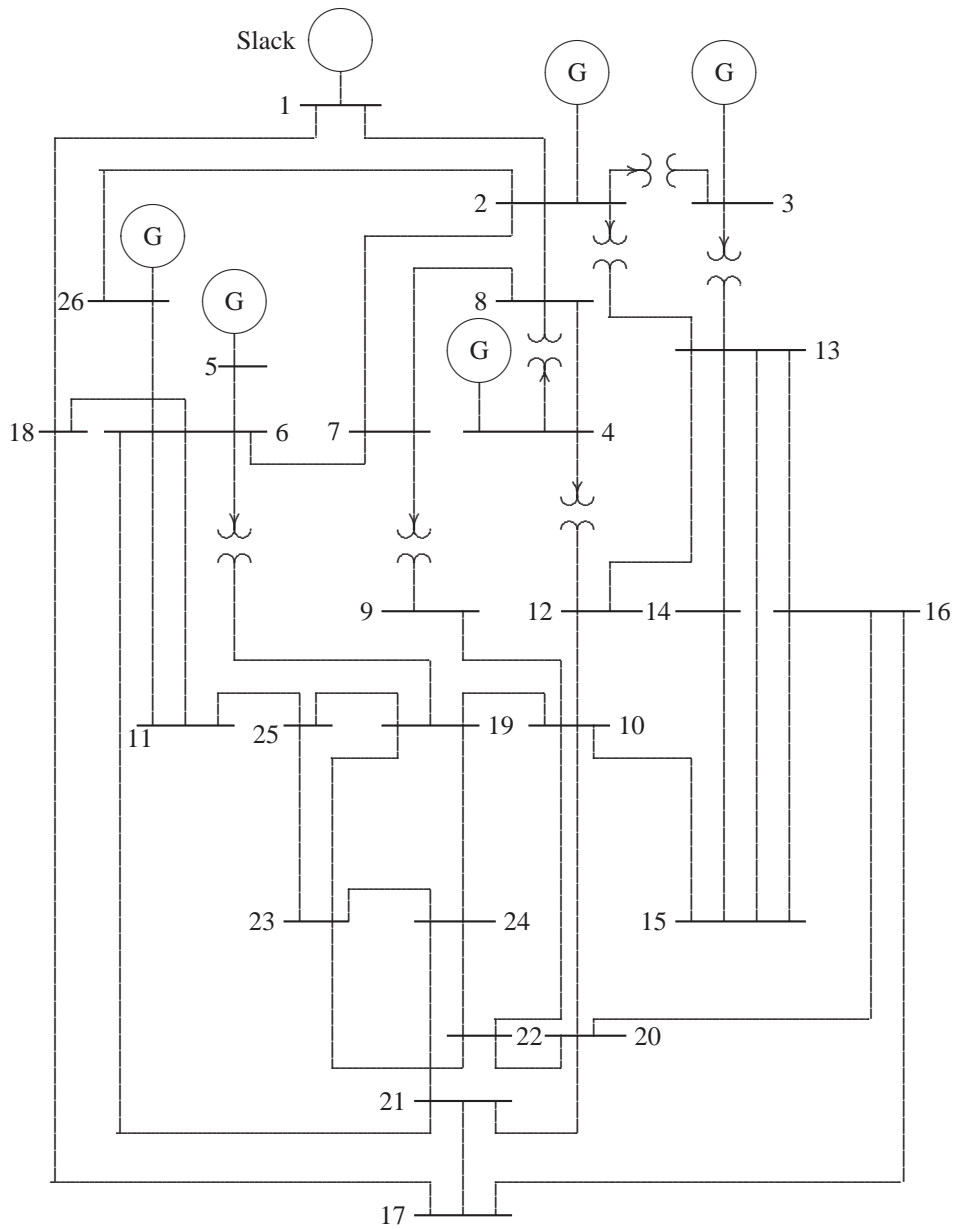

FIGURE 61
6.14. The 26-bus power system network of an electric utility company is shown in Figure 61. Obtain the power flow solution by the following methods: